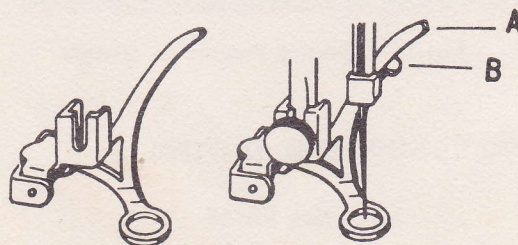

Fig. 14. Darning Foot
DARNING—See Fig. 14
1. Attach darning foot, Fig. 14, with arm (A) at the back of needle clamp (B).